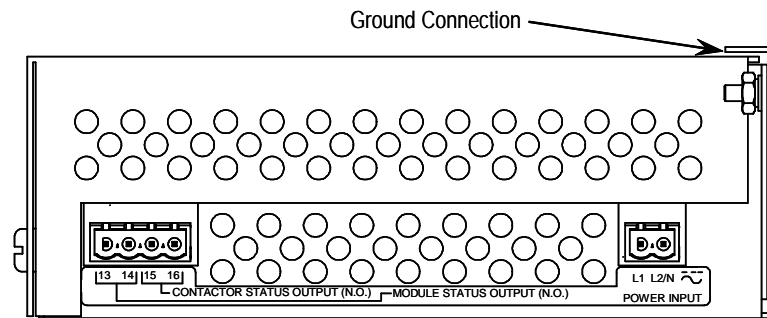
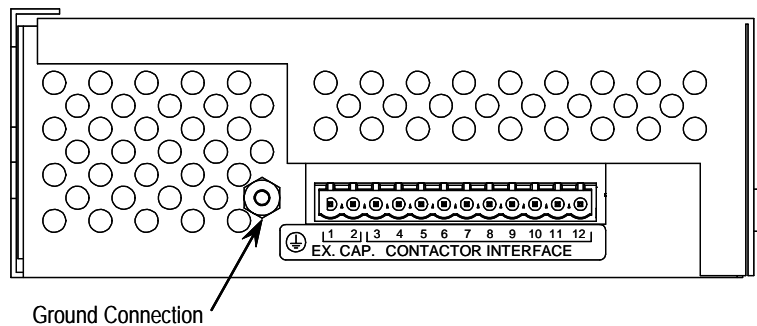

Figure 3.6 – Bottom side connections (Series B)
Figure 3.7 – Top side connections (Series A)
The IntelliVAC module must be connected to a common ground terminal (PE) on the controller panel. The ground terminal is located on top of the module enclosure for Series A design (refer to Figure 3.7), and on the bottom of module enclosure for Series B design, (refer to Figure 3.6)
All other control interface connections are made at a twelve-pole connector located on the top of the module. Refer to Figure 3.7 or 3.8 and Table 3.B for connections. Refer to the *Wiring Guidelines* section in this chapter for guidance in making connections to the control circuit.